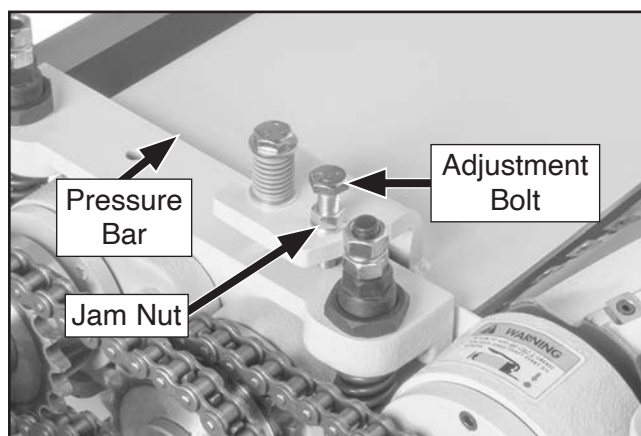

Figure 101. Location of pressure bar adjustment components.
3. On left side of machine, loosen jam nut, then tighten or loosen adjustment bolt (see **Figure 101**) so Rotacator/dial indicator reads 0.10mm.